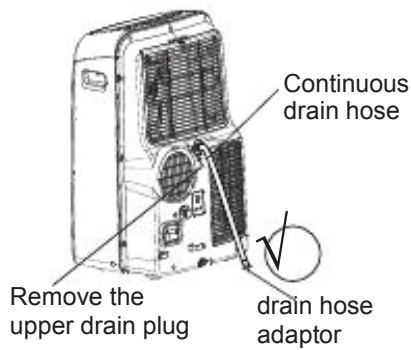

Fig.20a
- During dehumidifying modes, remove the upper drain plug from the back of the unit, install the drain connector(5/8-universal female mender) with 3/4 hose(locally purchased). For the models without drain connector, just attach the drain hose to the hole. Place the open end of the hose adaptor directly over the drain area in your basement floor. Please refer to Fig.20a.
NOTE: Make sure the hose is secure so there are no leaks. Direct the hose toward the drain, making sure that there are no kinks that will stop the water flowing. Place the end of the hose into the drain and make sure the end of the hose is down to let the water flow smoothly.(See Fig.20a,20b,21a). Do never let it up.(See Fig.21b).